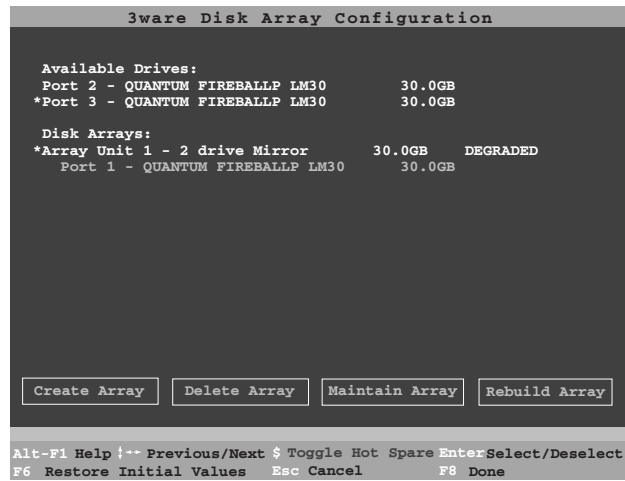

Figure 16 Select Available Drive to Replace Faulted Drive, RAID 1 Example
- 6 Select an available drive to replace the faulted drive in the array by navigating the cursor over the available drive and hitting **Enter** (see Figure 16). An asterisk in the left most column indicates the drive is selected.